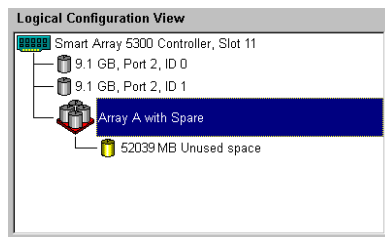

Figure 7-17: Logical Configuration View of Example Array
The **Logical Configuration View** window now looks like Figure 7-17.
1. Select the **Array A** icon or the **Unused Space** icon under Array A in the **Logical Configuration View** window (Figure 7-17).